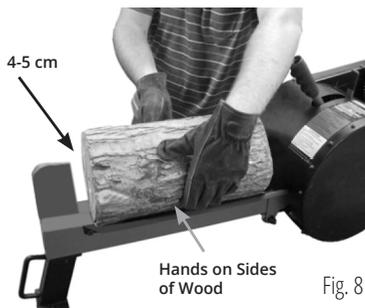

Fig. 8
1. Place the log on the Log Splitter. Grasp the log on the sides near the middle of the block (Fig. 8). Center the log, side-to-side, on the rail of the Log Splitter. Do not place the log tightly to the cutting knife. The recommended distance from the cutting knife is 4-5 cm.